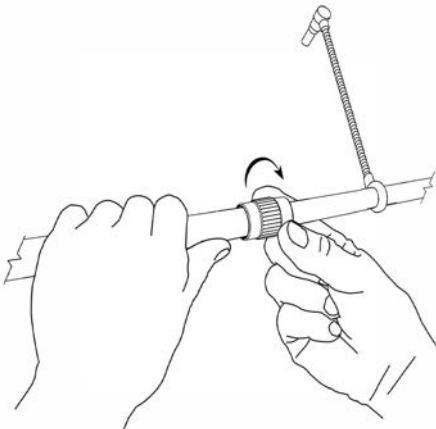

Figure 4. Loosening the Clutches
1. With the PianoMic™ assembled, loosen the two clutches on either side of the two microphone goosenecks (See Figure 4). *When adjusting the clutches, be sure to hold the larger diameter tube section with one hand while rotating the clutch with the other hand as indicated in figure 4.* However, do not loosen the clutches all the way; just enough so the bar can be extended and still have a little friction. This will make it easier to adjust the length of the bar from both ends once it is placed inside the piano.